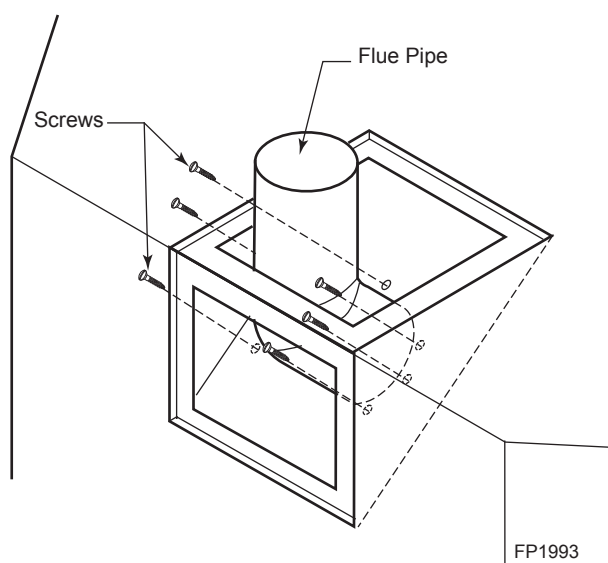

Figure 9 - Attach Flue Pipe to Top Vent Configurations
5. Replace flue pipe to top of firebox. Ensure the gasket is in place and undamaged. Secure with six (6) screws. *Figure 9*
7. Refit the flue pipe adapter and gasket to the top of fireplace. Secure the adapter with eight (8) screws removed in Step 1.